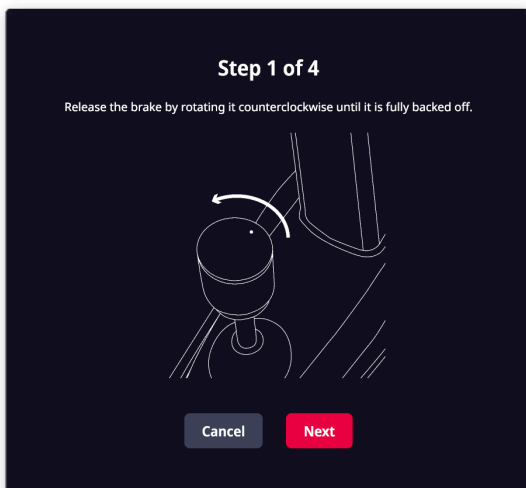

Fig. 79
- a. Release the brake by rotating it counterclockwise until it is fully backed off. (Fig. 79)